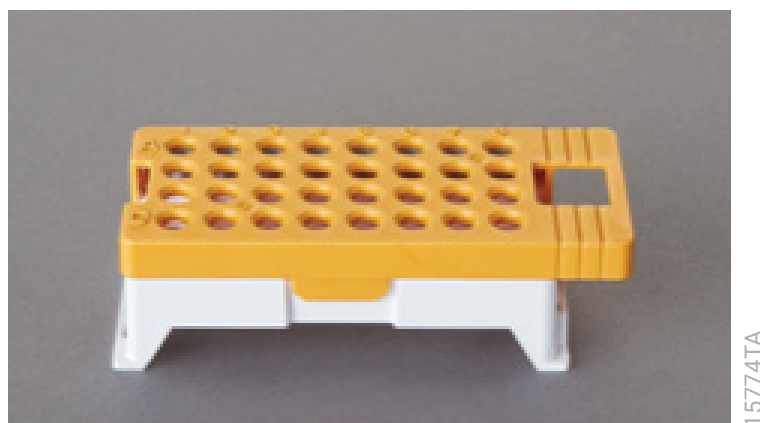

Figure 16. Assembled Spectrum Compact Sample Cartridge.
- To complete the assembly, place the retainer over the strip in the strip base, aligning the lane names A to D and well numbers 1 to 8 on the retainer to those on the strip base and pressing until the retainer clicks into the strip base (Figure 16).